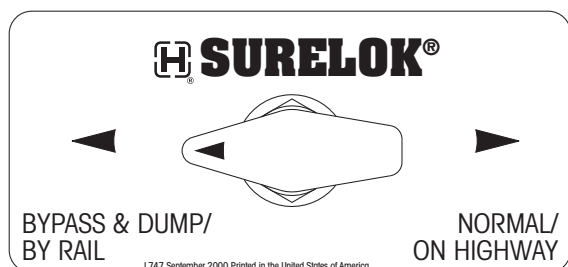

Figure 6. Bypassing SURELOK and exhausting the air suspension
2. Turn the SURELOK bypass valve to the BYPASS & DUMP / BY RAIL position (figure 6). The trailer air suspension will exhaust while SURELOK